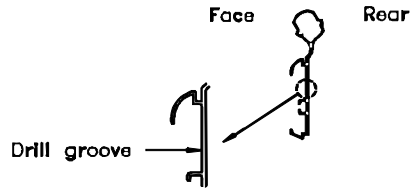

Fig 5
- Note: Use groove in retainer to locate centerline for drilling, see **fig. 5***